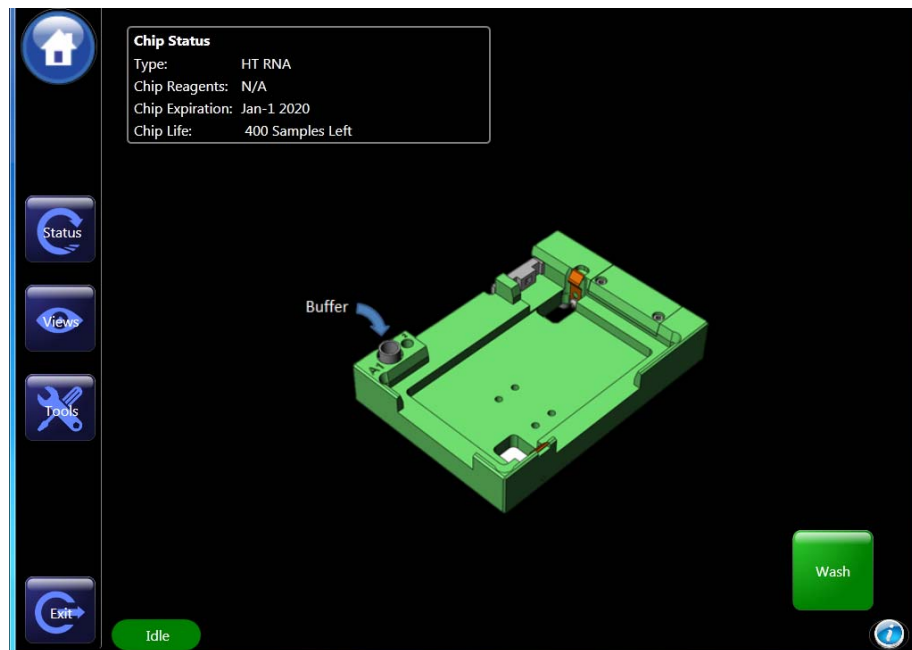

Figure 22. Wash screen.
- Touch the *Wash* button on the *Home* screen (Figure 22).